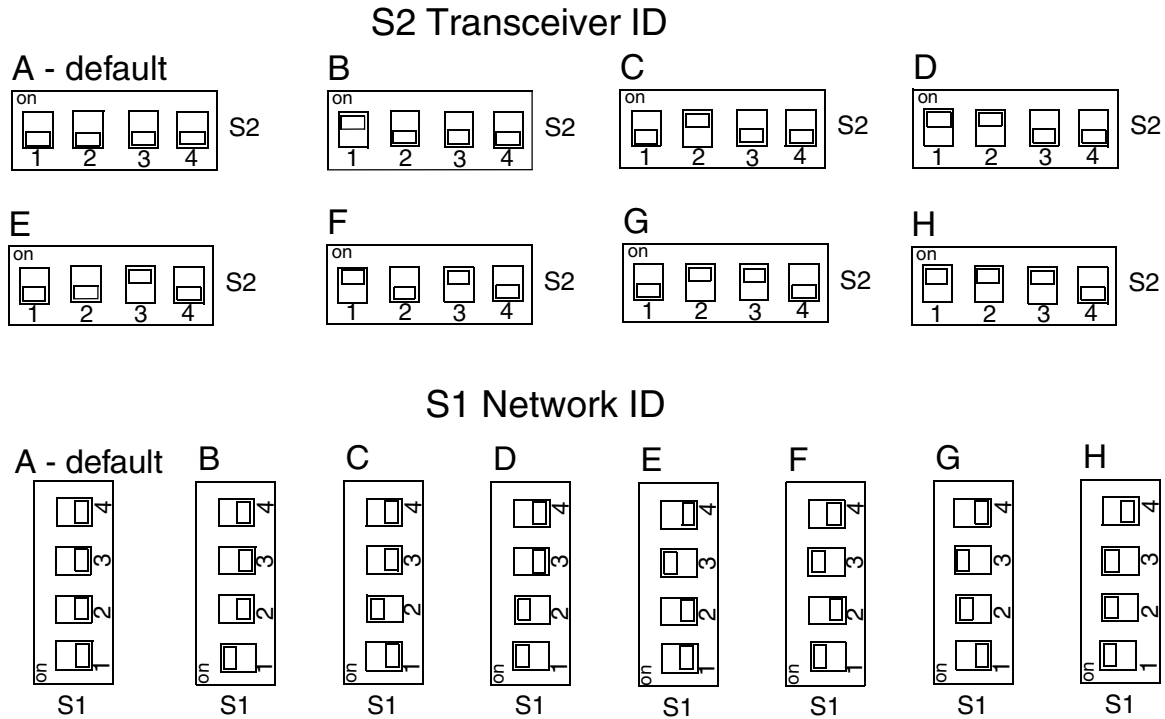

FIG. 10
In FIG. 10 you can see the default (AA) setting. If the system is a one Transceiver application and no other Matrix systems are in the same RF range, this setting will not require changing.